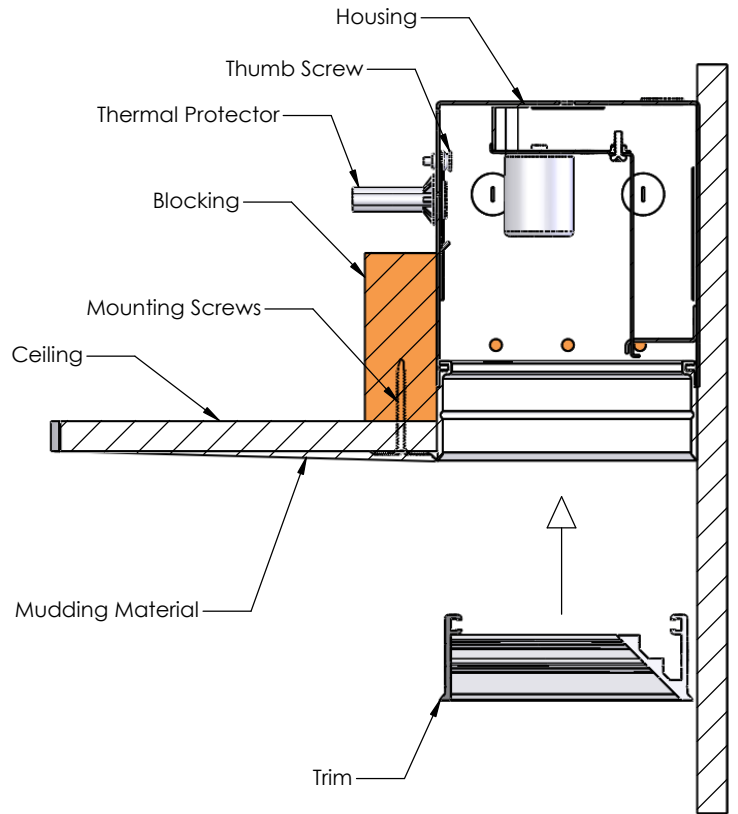

FIGURE 6
5. Once the fixture is mounted, the Thermal Protector can be returned to proper position by placing the Thermal Bracket back into the Housing using the Thumb Screw. (Figure 6)
6. The Fixture can now be mudded with the ceiling material. Apply drywall tape to inside of the fixture to ensure fixture is not mudded. Place mudding compound on edge of Plaster Frame and feather away from fixture on all three sides. (Figure 6) Once the ceiling is dry, the Trim can now be inserted into the Housing.